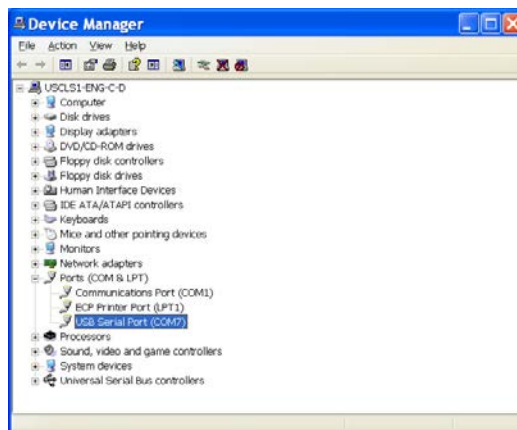

Figure 3.47. Device Manager - Ports
3. Verify the assigned VCP by accessing the Control Panel->Device Manager screen and reviewing the Ports section. A new VCP should have been assigned. See Figure 3.47 for COM15.